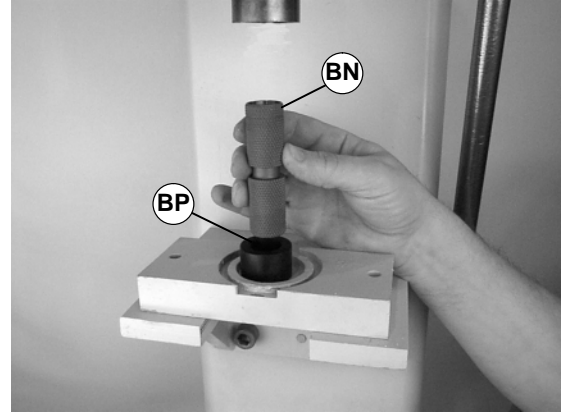

Figure 51
1. Orient bearing anvil/sleeve removal tool (part # 25-09\*) (BP of Figure 51) with cavity facing up and place pulley (BN) onto tool.